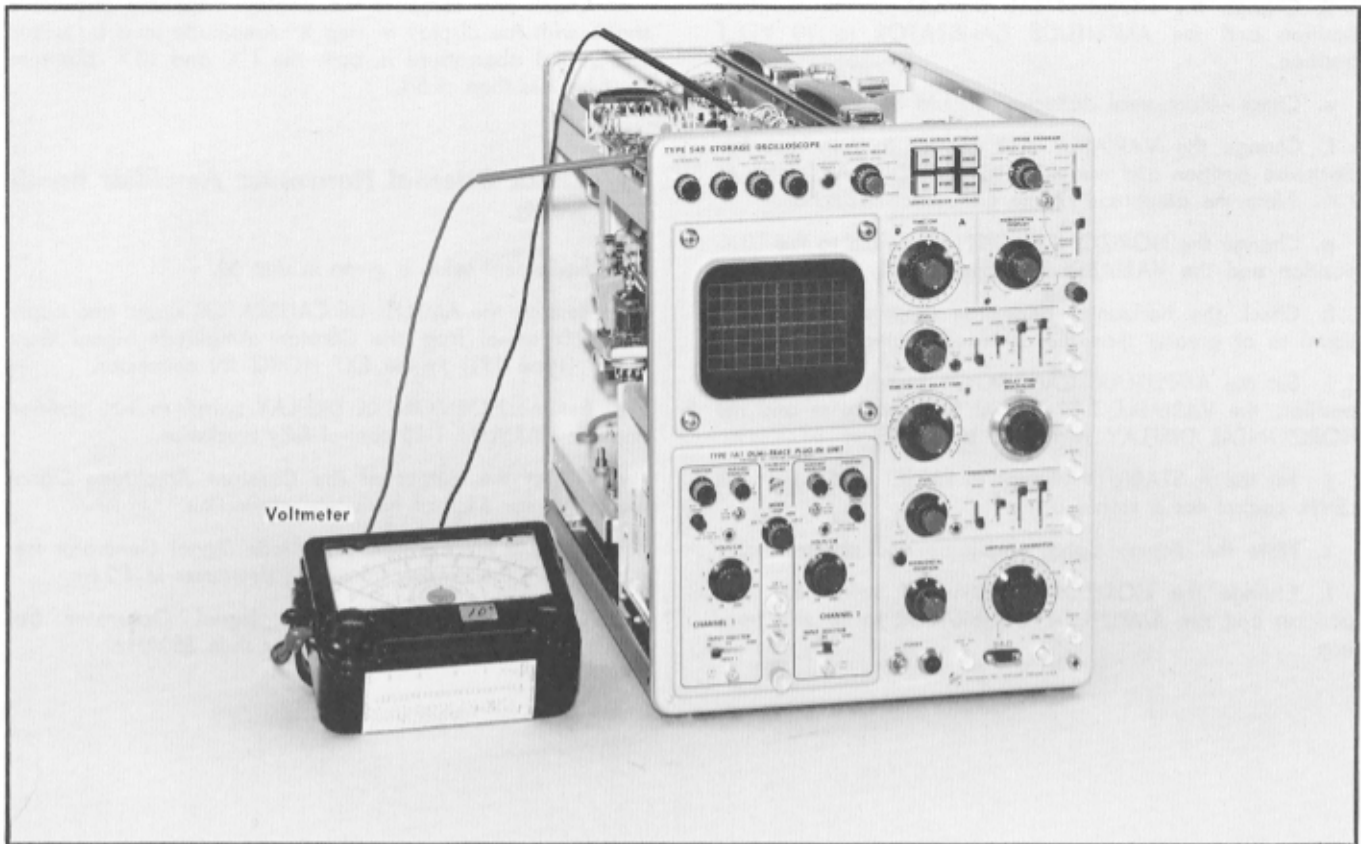

Fig. 6-43. Equipment setup for steps 52 through 54.
52. Adjust Flood Gun Cathode Potential and Backplate Balance. ①
a. Equipment setup as shown in Fig. 6-43.